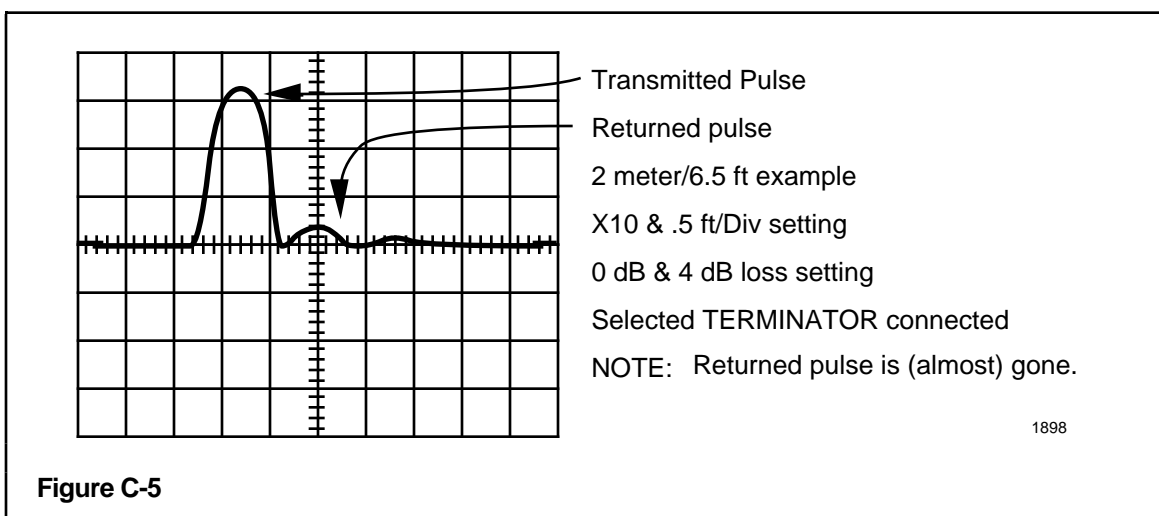

Figure C-5
8. The screen should look like Figure C-5 or Figure C-8.